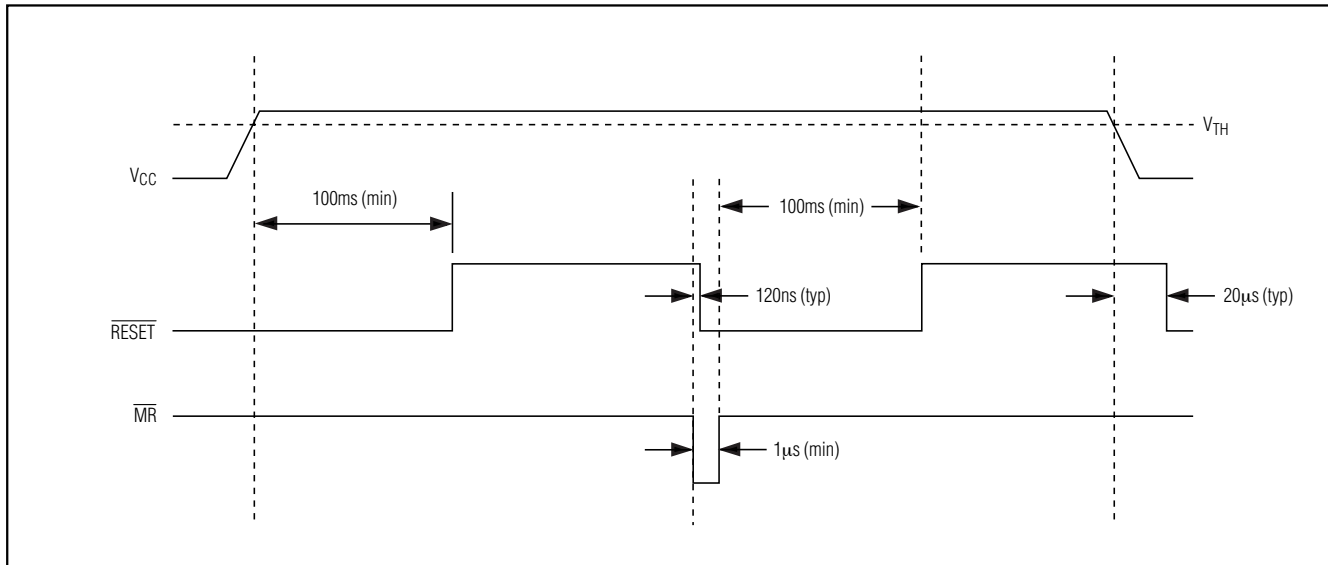

Figure 5. RESET Timing Relationship
falls below the preset threshold or when the manual reset input (MR) is asserted. The RESET output remains asserted for at least 100ms after V_{CC} has risen above the reset threshold and MR is deasserted (Figure 5). For noisy environments, bypass V_{CC} with a 500pF (min) capacitor to ensure correct operation.
Many μ P-based products require manual reset capability to allow an operator or external logic circuitry to initiate a reset. The manual reset input (MR) can connect directly to a switch without an external pullup resistor or debouncing network. MR is internally pulled up to V_{CC} and, therefore, can be left unconnected if unused. MR is designed to reject fast, negative-going transients (typically 100ns pulses), and it must be held low for a minimum of 1µs to assert the reset output (Figure 5). A 0.1µF capacitor from MR to ground provides additional noise immunity. After MR transitions from low to high, reset will remain asserted for the duration of the reset timeout period, at least 100ms.